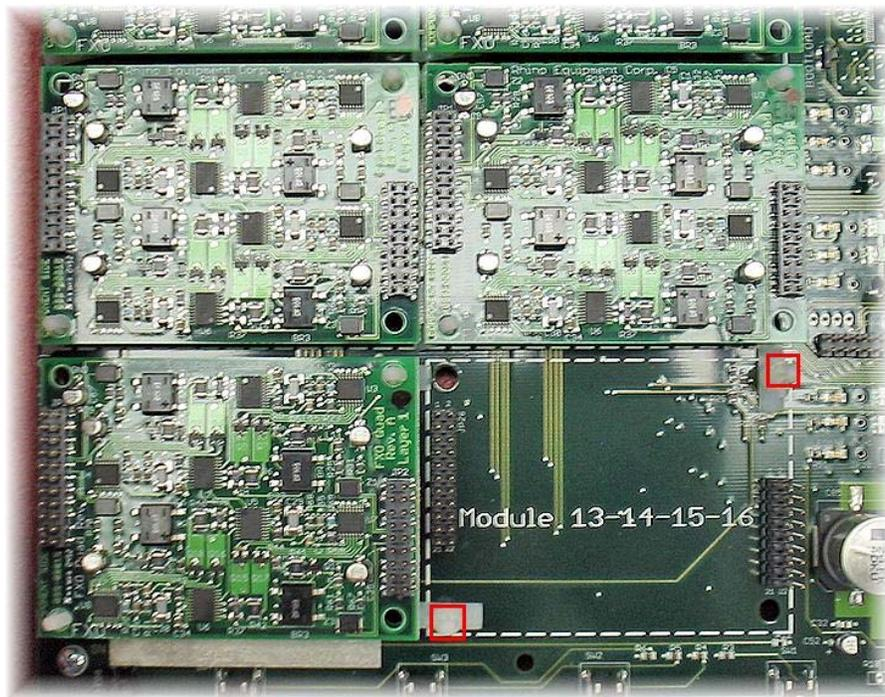

Figure 4
**2** It is recommended that you use the spacers provided with the modular card. These spacers will help ensure a solid connection between the modular card and the main board. Place the spacers in the top right corner and bottom left corner of the space designated for the new modular card. (Refer to figure 4)